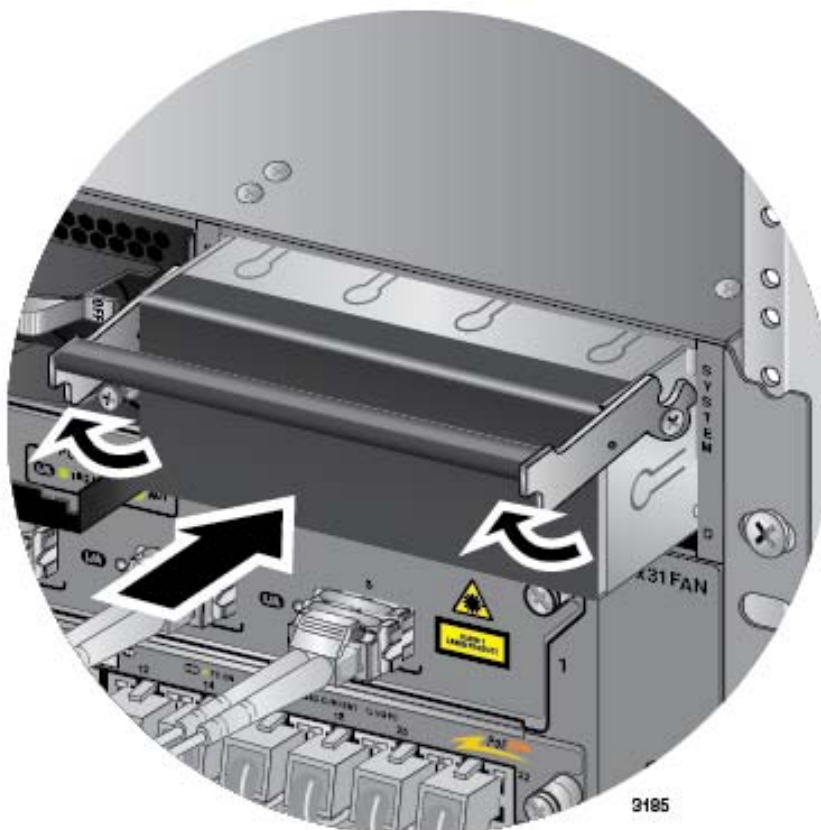

Figure 168. Installing a Blank Power Supply Slot Cover
13. Place the locking handle on the slot cover in the up position and slide the cover into the empty power supply slot. Refer to Figure 168 on page 270.